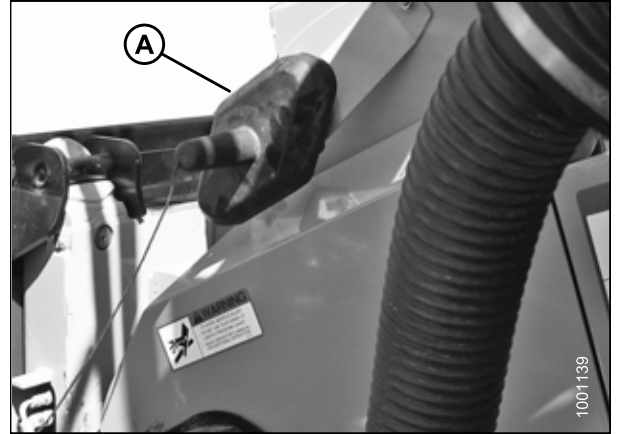

Figure 4.30: Receptacle Cover
13. Place float module receptacle cover (A) onto the combine receptacle as shown in Figure 4.30, page 71.